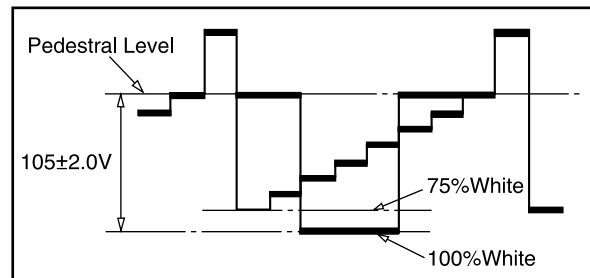

Fig. 3-2
2. Using the volume keys on the jig remote controller adjust the pedestal level and the voltage of 100% white to $105 \pm 2.0V$, according to Fig. 3-2.